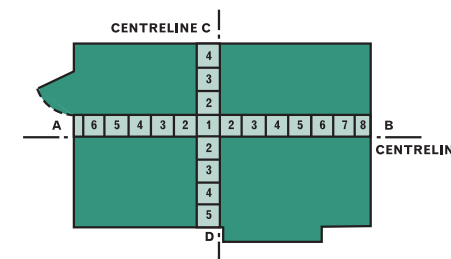

Figure 20 Laying out rubber tiles
E. Loose lay tiles away from the centreline C-D and check that no small strips will have to be laid. Adjust centreline C-D as described for A-B. In Figure 20, by moving the centreline C-D towards the door, tile 6 would only require a small amount to be trimmed off, as would tile 8 on the opposite wall.